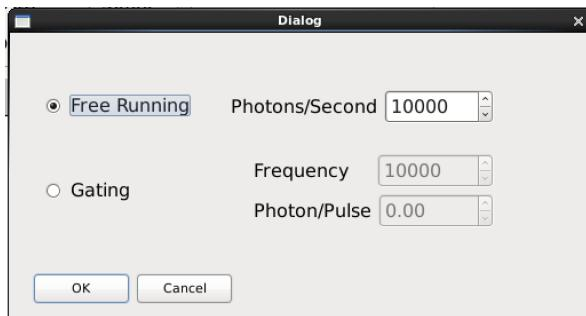

Figure 4: Sub-tab of main control program. In this sub-tab you choose the photon settings for the characterizations.
- Press: *Tab 1 > Choose input light*. The sub-tab shown in Fig.4 appears. *Laser Freq.:* Choose gating, then choose the laser frequency. Standard settings: Frequency: 10000